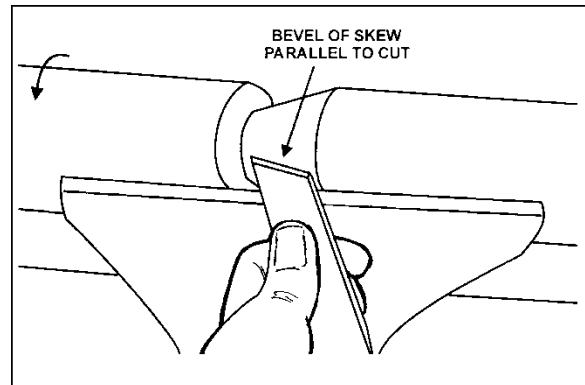

Figure 25
- With the bevel parallel to the right side of the cut, raise the handle and push the tool in to the desired depth, as shown in Figure 25.